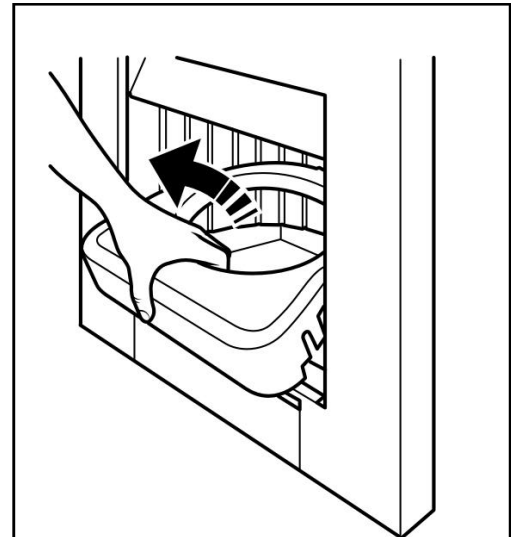

Figure 25. Fascia casting removal
2. Carefully lift the fascia casting and pull forward to remove (See figure 25).